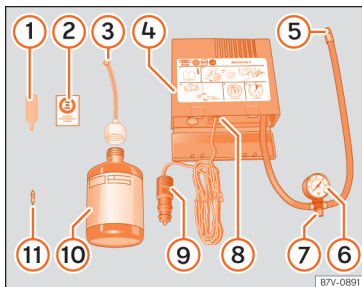

Fig. 80 Standard display: contents of the anti-puncture kit.
The anti-puncture kit is located underneath the floor covering in the luggage compartment. It includes the following components »» **Fig. 80**:
Screw in the inflator tube »» **Fig. 80** ⑤ again and check the pressure on the gauge ⑥.